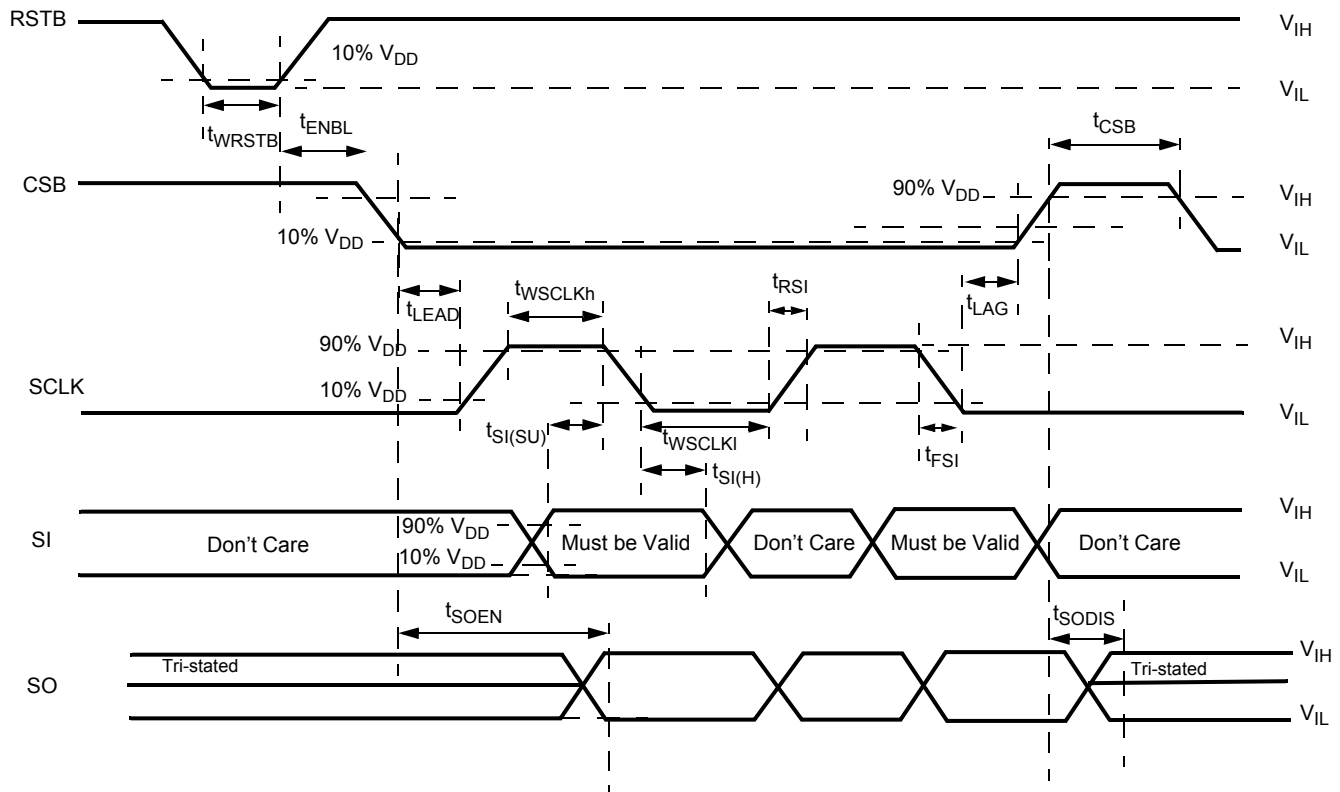
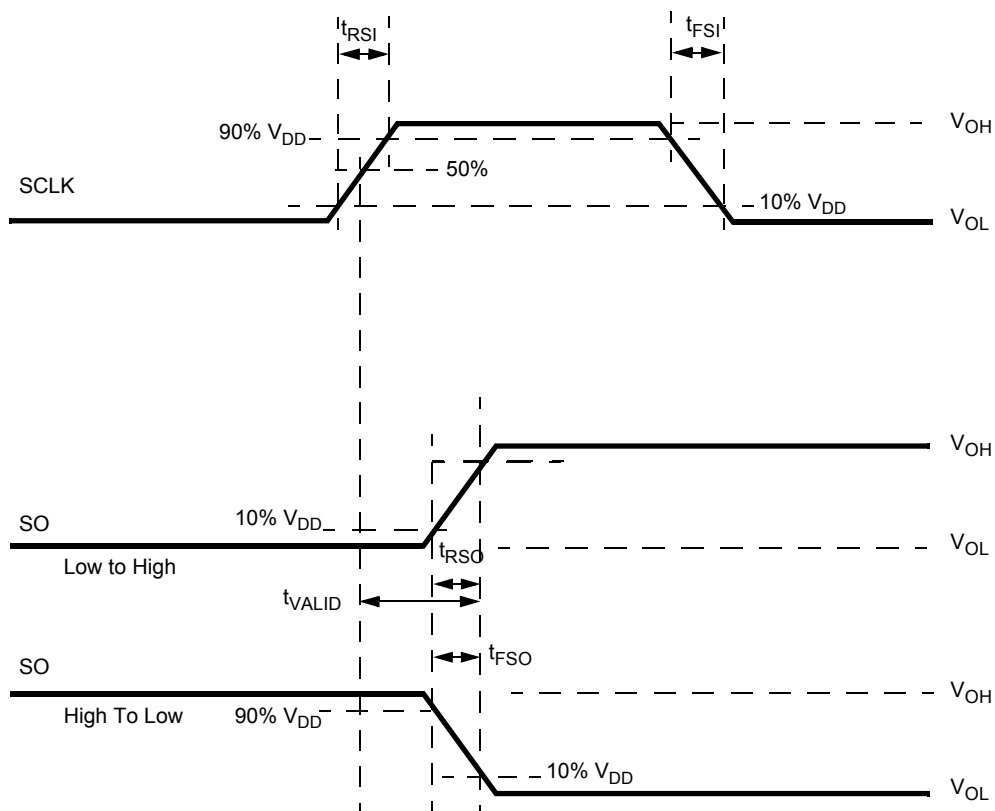

Figure 7. Timing Requirements During SPI Communication
Figure 8. Timing Diagram for Serial Output (SO) Data Communication
Data communication over the SPI port is enabled when the CSB pin is in the logic [0] state. Data from the Input Shift registers are locked in the addressed SI registers on the rising edge of CSB. The device transfers the contents of one of the eight internal registers to the SO register on the falling edge of CSB. The SO output driver is enabled when CSB is logic [0]. CSB should transition from a logic [1] to a logic [0] state only when SCLK is at logic [0] (Figure 7 and Figure 8). CSB is internally pulled up to V_{DD} through I_{UP} .
Serial input (SI) data bits are shifted in at this pin. SI data is read on the falling edge of SCLK. 16-bit data packages are required on the SI pin (see Figure 7), starting with bit D15 (MSB) and ending with D0 (LSB). All the internal device registers are addressed and controlled by a 4-bit address (D9-D12) described in Table 13. Register addresses and function attribution are described in Table 14. The SI pin is internally connected to a pull-down current source, I_{DOWN} .